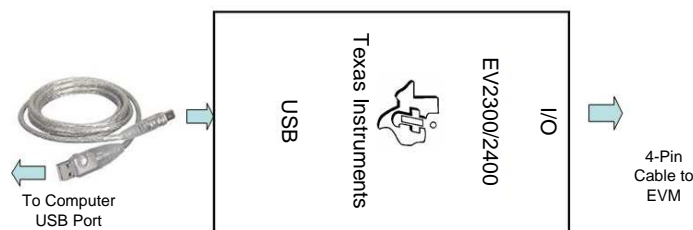

Figure 1. Connections of the EV2300 Kit
6. Connect the EV2300/2400 USB interface board to the computer with a USB cable and from I²C port to J8 with the 4-pin cable. The connections are shown in Figure 1.